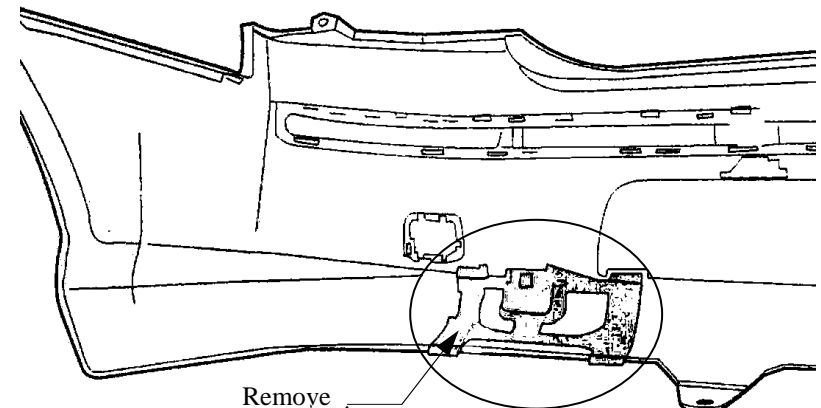

Fig. 2
2. Disassemble bumper cover. Under cover is placed plastic reinforcement. On the left side of this reinforcement unscrew 4 bolts M8. Put left fishplate (pos. 5) in this way, so 4 holes in the fishplate agree with holes in the reinforcement. Fix loosely using bolts M8x50mm (pos. 12) from accessories, remember – put 2 bolts M12x40mm (pos. 10) before fix, see drawing.
3. Next make the same actions on the right side. Unscrew 4 original bolts M8. Put right fishplate (pos. 4) in this way, so 4 holes in the fishplate agree with holes in the reinforcement. Fix loosely using bolts M8x50mm (pos. 12), remember – put 2 bolts M12x40mm (pos. 10) before fix, see drawing.
4. On protruding from fish-plates bolts M12 put side brackets pos. 8 and 9, next fix it by bolts M12x40mm (pos. 10).
6. According to the drawing put side handles pos. 6 and 7 and fix it by bolts M10x40mm (pos. 11) to chassis members and next between mounted elements put main bar of the towbar (pos. 1) and fix it to already mounted side elements by bolts M12x40mm (pos. 10).
9. Fix the socket plate (pos. 3) as shown on the drawing.
10. Reinstall the bumper after remove element show on figure 2.